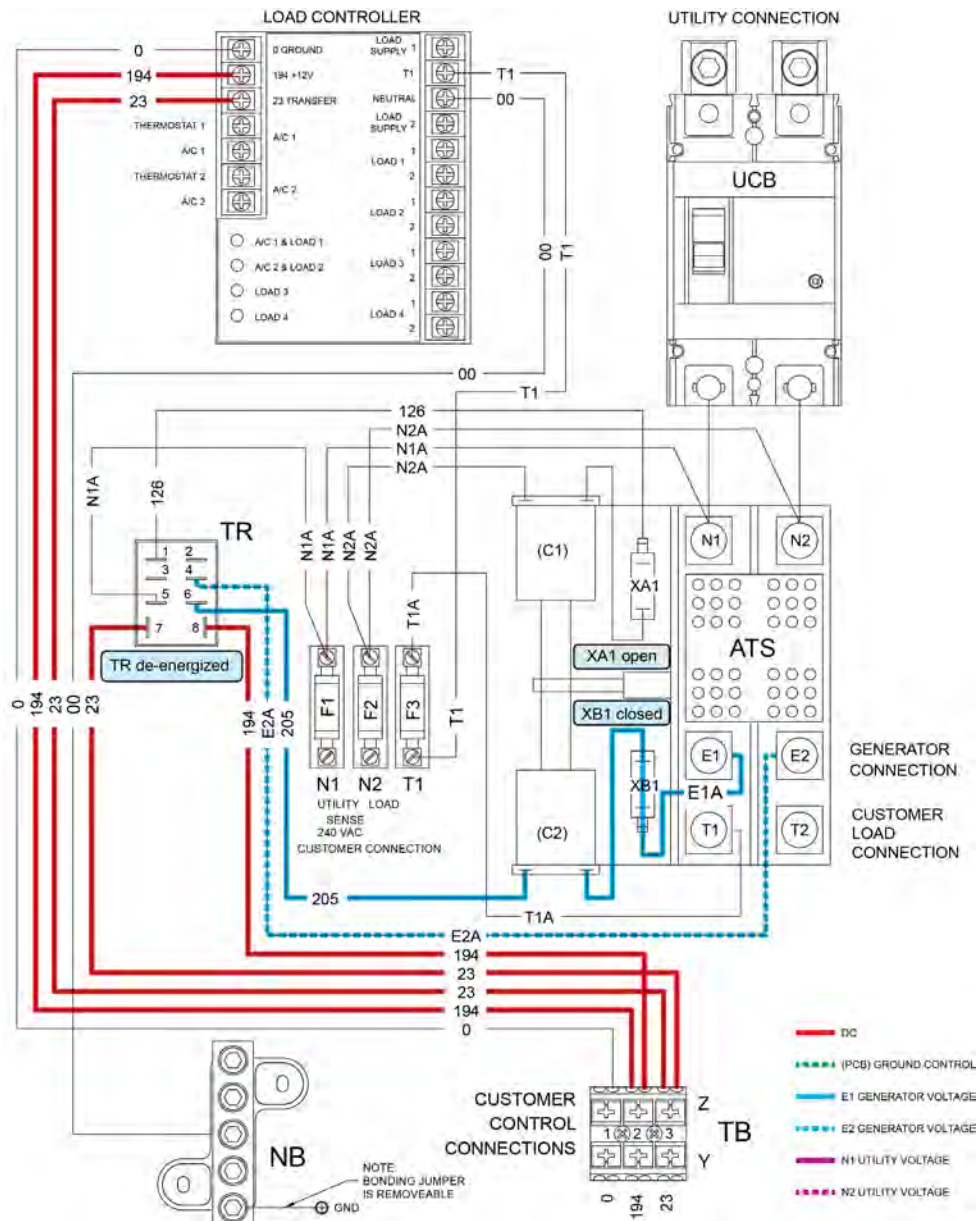

Figure 3-43. Utility Source Voltage Failure
If Utility source voltage drops below 65% of nominal voltage for five (5) seconds, the controller will initiate engine start. After the generator starts, a five (5) second engine warm-up timer is initiated. During this warm-up the generator is running at rated frequency and voltage. **Figure 3-43** is a schematic representation of the transfer switch with the Generator running with voltage available to the transfer switch.